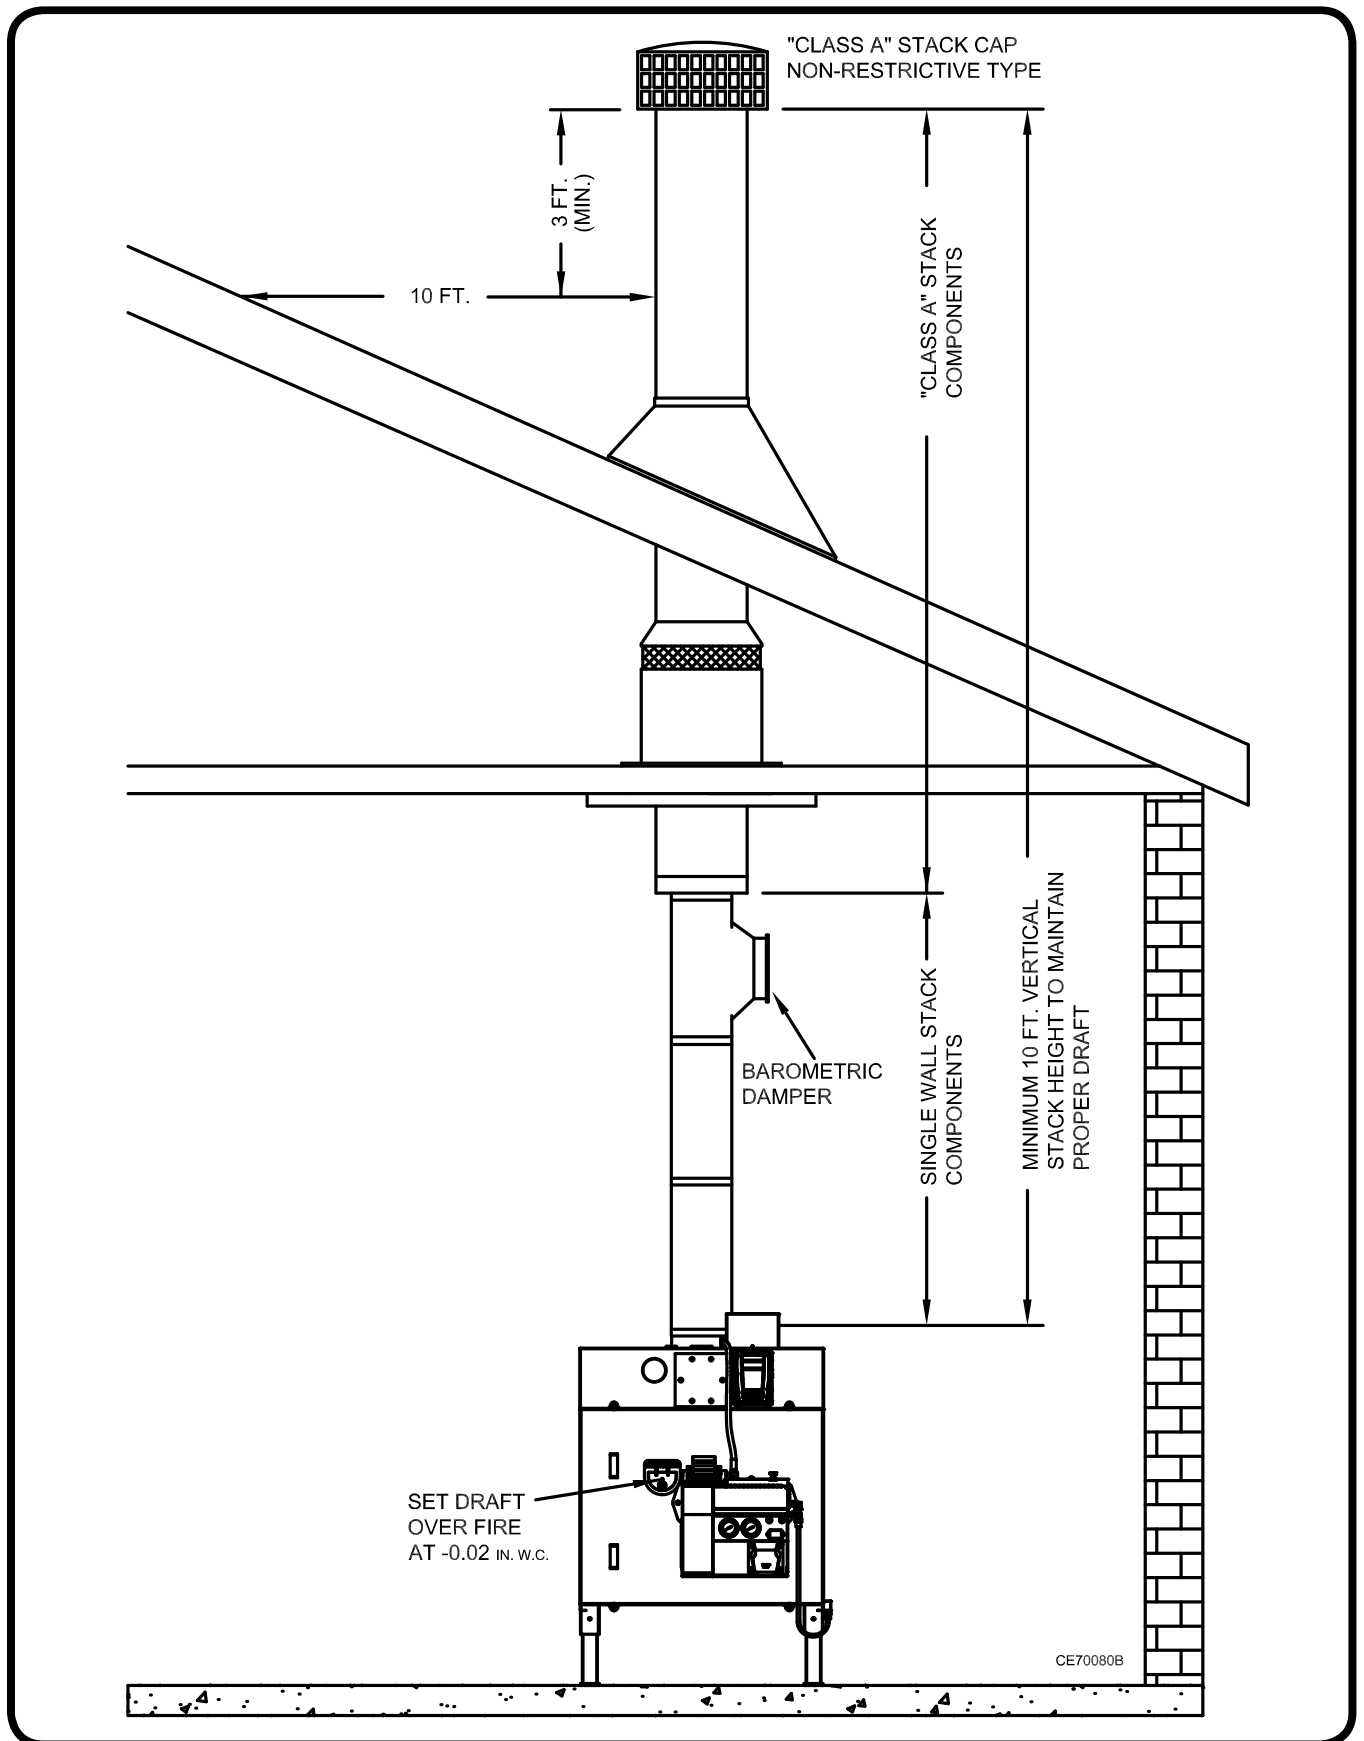
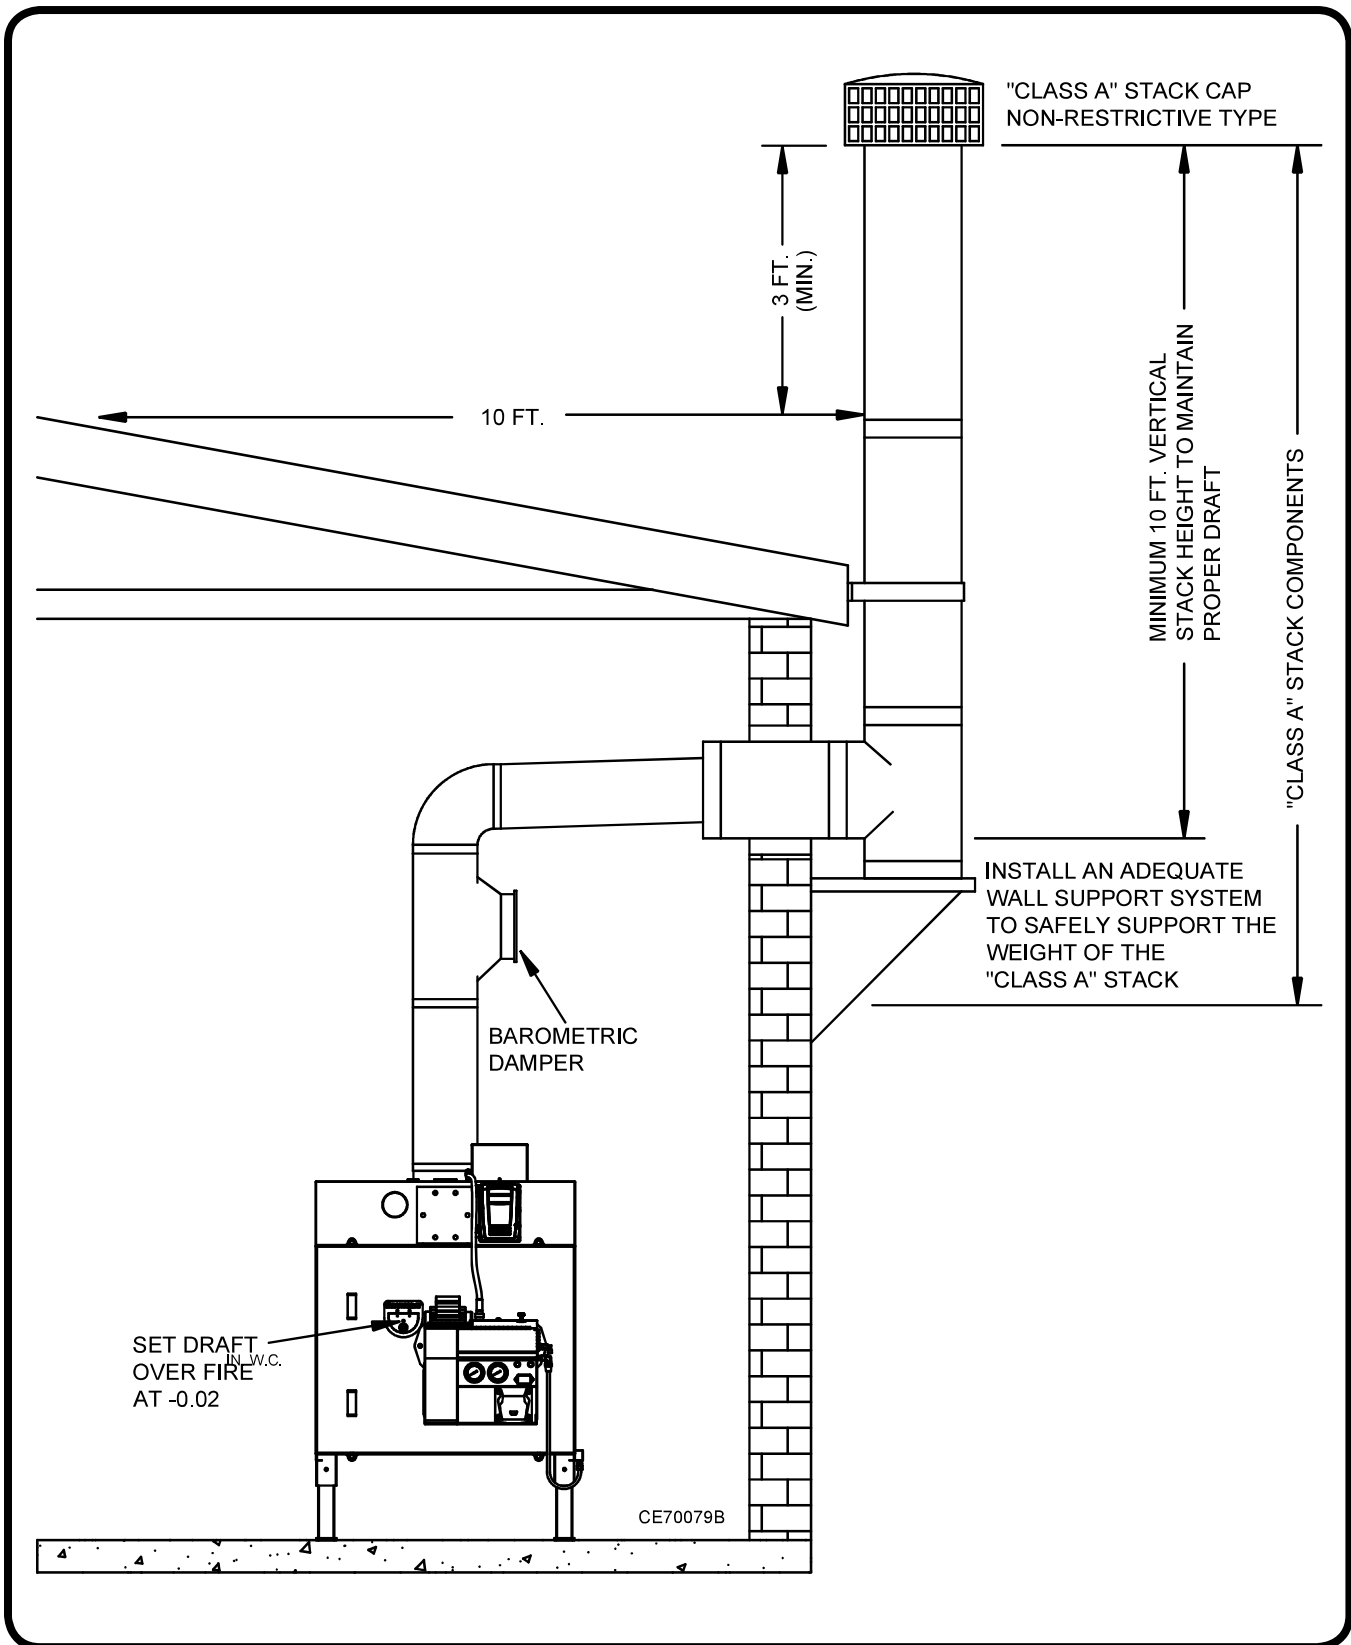

Figure 10: Typical Through-the-Roof Chimney Illustration
Figure 11: Typical Through-the-Wall Chimney Illustration
- (1) Refer to Figure 10 for a typical through-the-roof chimney illustration and Figure 11 for a typical through-the-wall chimney illustration.
- (2) Observe the following requirements when installing the chimney:
- (3) Single wall stack may be used inside the building. Observe proper clearances from combustibles. Do not put single wall stack in areas that may create a burn hazard to personnel.
- (4) Install a barometric damper, as shown in Figures 10 and 11, so that proper draft can be maintained. Follow the instructions provided with the damper for proper installation.
- (5) Use double wall “Class A” insulated stack when making a penetration through the roof or side wall of your building. Install proper flashing around the exterior penetration of the stack to make a water tight seal. Clean Energy Heating Systems, LLC recommends “Dektite” flexible pipe flashing, or equivalent, for through the roof installations.
- (6) Install a “Class A” non-restrictive stack cap only.